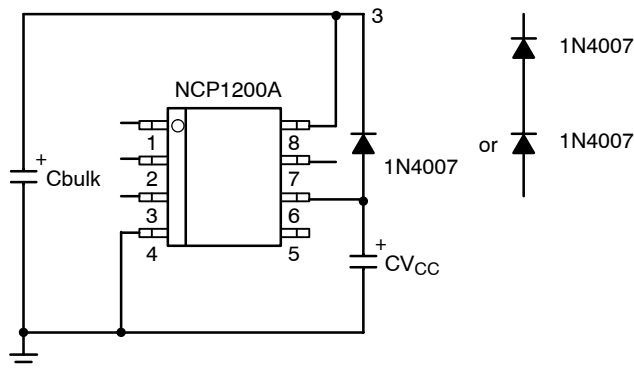

Figure 24. A Diode Forces the V_{CC} Capacitor to Quickly Discharge at Power-off
A simple and inexpensive solution helps circumventing both problems, negative biasing, and gate high transient. It consists in a solution using one 1N4007 (or two in a series for safety) forcing the V_{CC} capacitor to deplete at the same rate as the bulk capacitor does. Figure 24 shows the solution.
1. Wire a diode between V_{CC} and the bulk capacitor as illustrated by Figure 24.